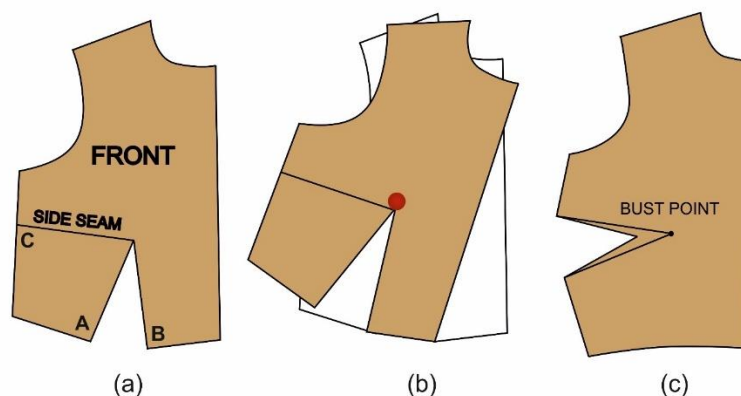

Fig. 2.9 (a, b & c) Pivot method
Pivotal method is mainly used in the manufacturing industry as it is quick and easy to shift dart positions. It does not require a slash (cut) and join technique. Following are the steps to relocate darts using pivotal methods (see Figure 2.9) :
- Once the pattern is pinned, mark a point on the pattern where the dart has to be relocated on the pattern (In Figure 2.9 the relocation is done from the waist to the side dart).
- Now, on the pattern paper trace the pattern from dart leg (A) to the new position point on the pattern (C).